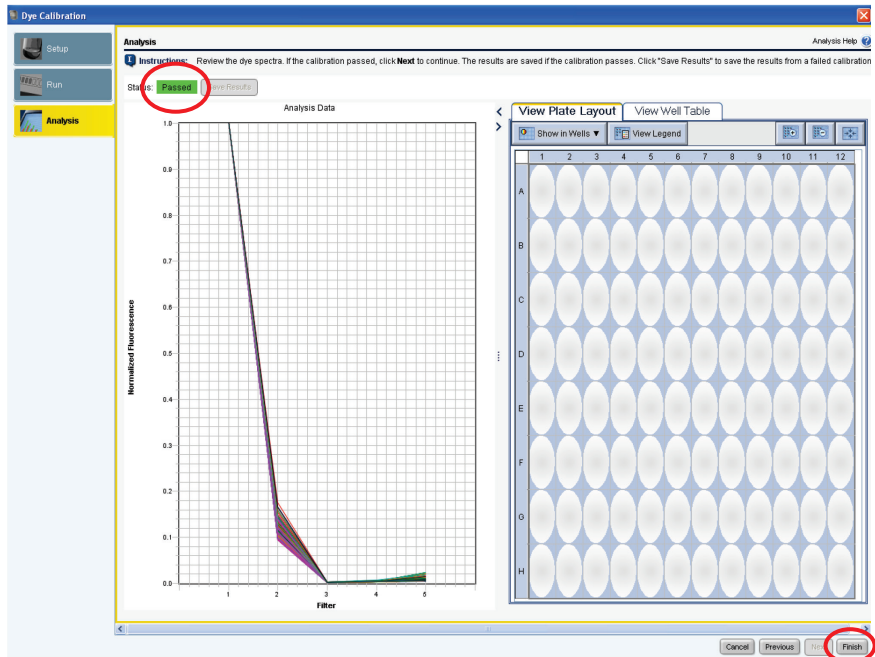

Figure 22. Display of dye spectra and status.
21. The spectra and the status (e.g., passed) will be displayed (Figure 22). Click **Finish**.